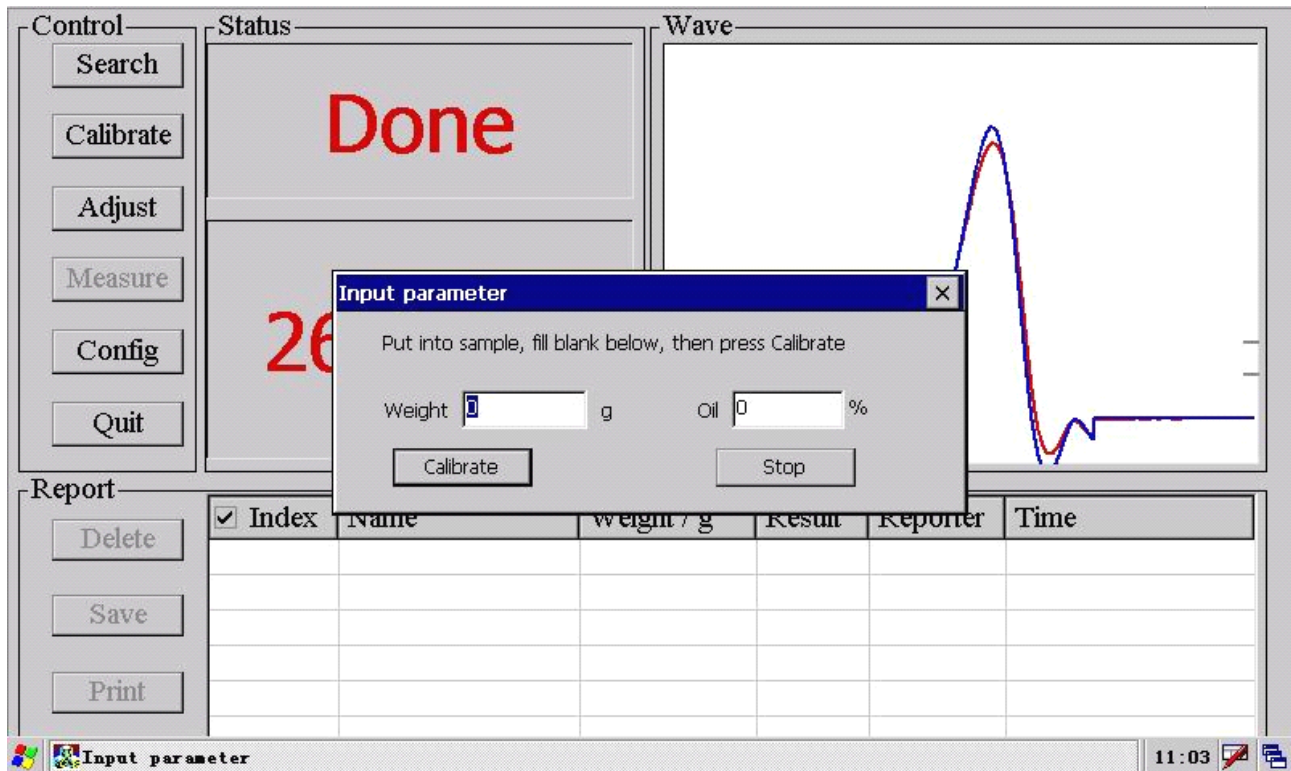

Figure 9 2nd sample parameters input
④ The status block shows Done, and then the input parameter window will pop again as shown in figure 9. This time you need to input the next sample parameters for
⑤ Calibrate for the empty sample. Take the pure oil sample out of magnet, input the empty sample weight and oil content which are both 0 as shown in figure 9, and the click button calibrate in pop window;
⑥ After the same process as ③, we see the interface described in figure 9 again. This time we click button stop in pop window to finish the calibrating process with 2 samples: pure oil and empty.